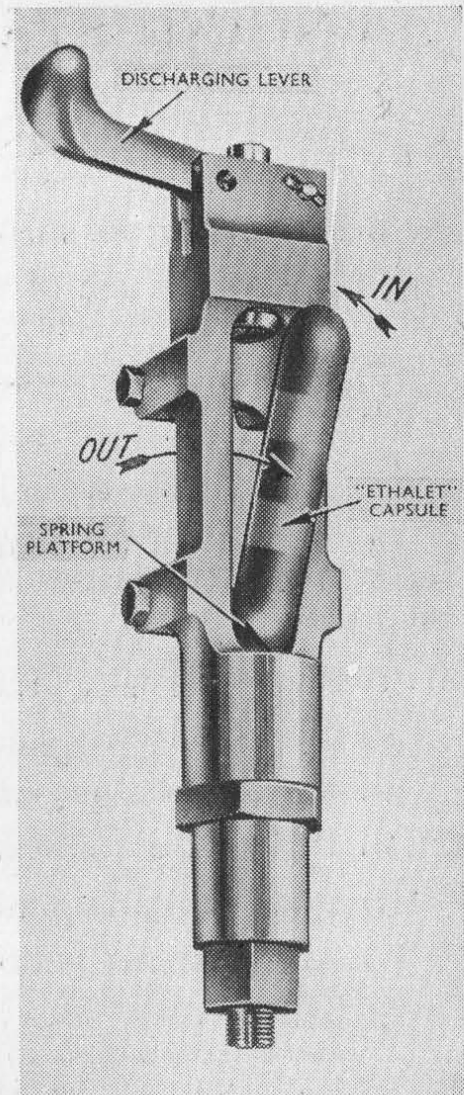

Fig. 6. "Ethalet" Tool.
- (ii) Move the starting switch (21) to the "on" position.
- (iii) Remove the dummy capsule from the "Ethalet" tool (*see Fig. 6*).